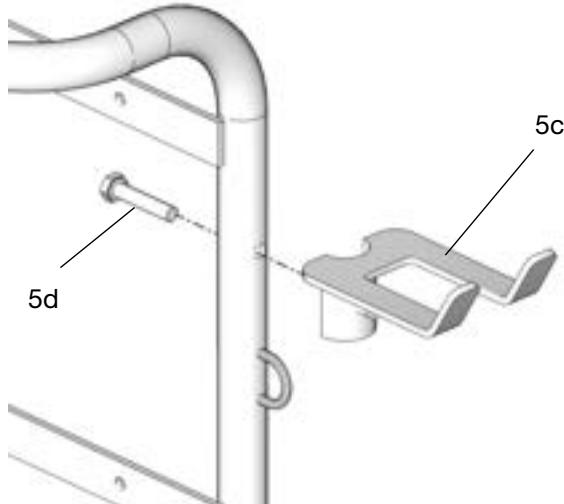

FIG. 32
4. Install the meter bracket (5c) to the handle frame with screw (5d) (FIG. 32).